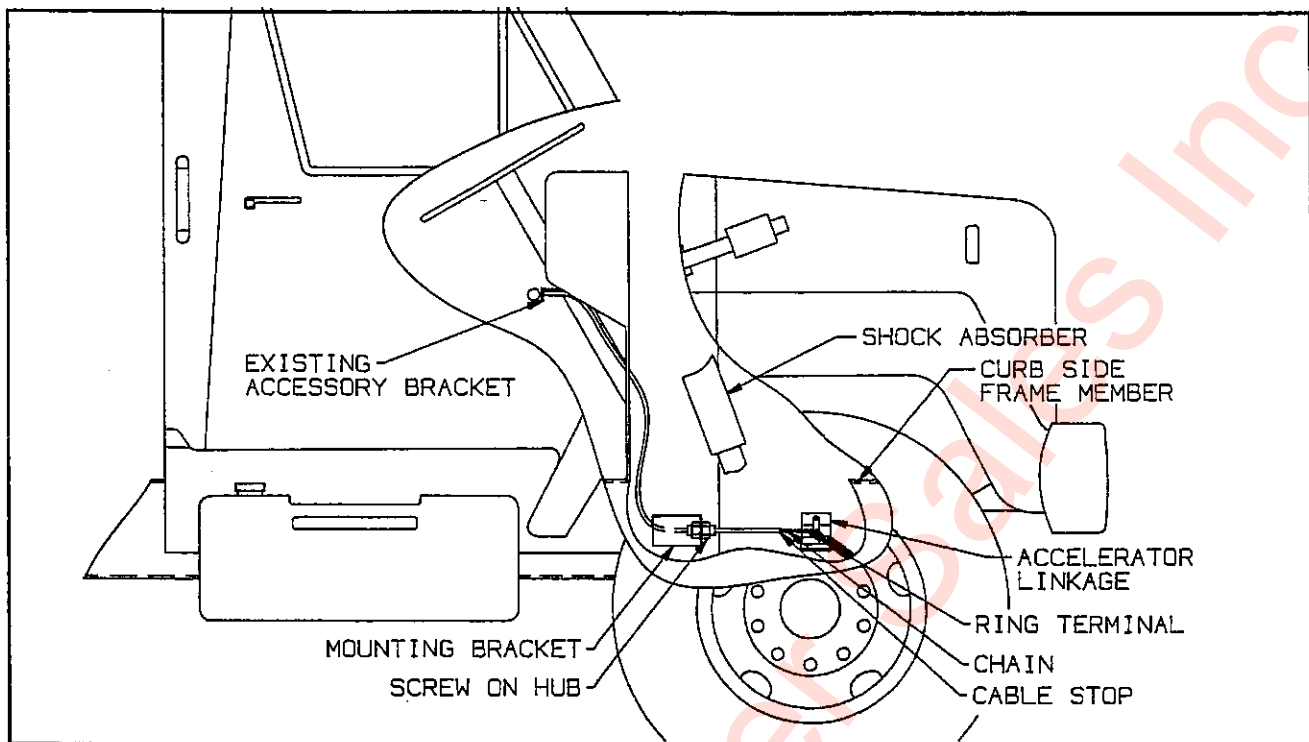

Figure 4-12 Ford Throttle Installation (Diesel)
**4-11.2** Mount the throttle cable to the accessory installation plate in the hole you just created and thread it through one of the access holes in the firewall. There should be a grommeted hole just below and to the left of the steering column. You will need to cut a hole in the rubber just large enough to permit the throttle cable to pass through. If a hole is not readily available, one must be drilled in an area free of brackets, wires or other obstructions. Be sure to grommet the hole before installing the throttle cable. See **FIGURE 4-12** for orientation during the balance of the installation.